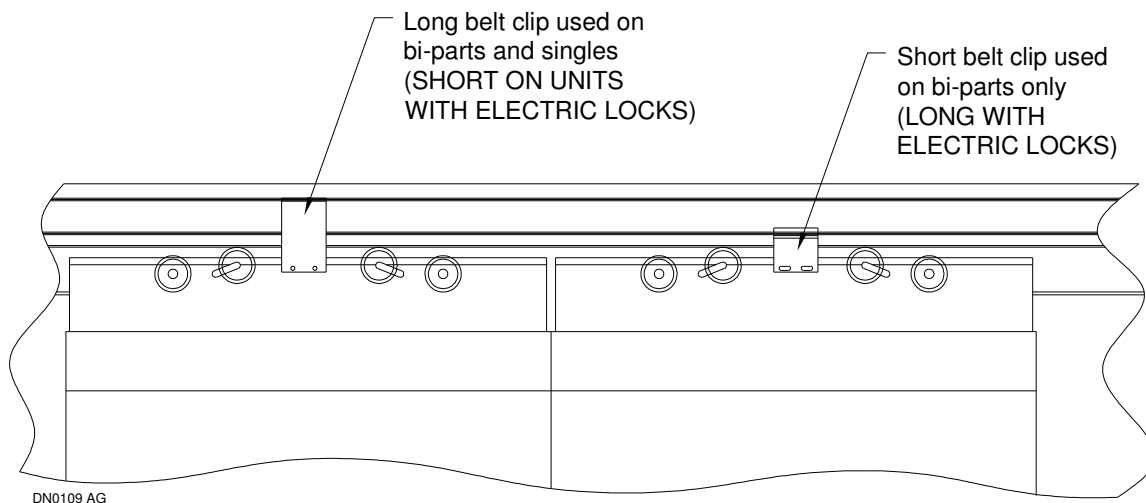

Figure 15
6. Attach belt clip(s) using #12 x 3/4 inch self drilling/self tapping screws. Starter mounting holes have been pre-drilled in door carrier. Belt clips should be installed toward leading edge of doors (See Figure 15)